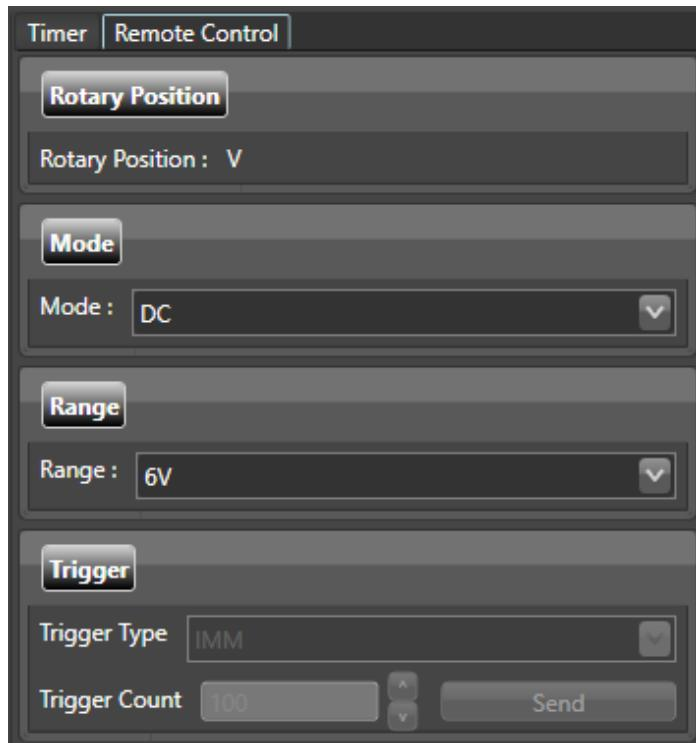

Figure 5: DMM Remote Control Settings
b. Verify all DMM “Remote Control” settings match Figure 5 below.